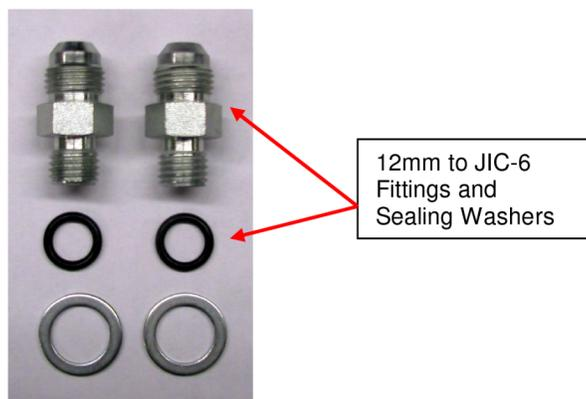

Figure 1 - LB7 Twin CP3 Pump Fittings
1. Please make sure all pump fittings are packaged together in the LB7 Twin CP3 “No-Pump” Kit. These fittings are shown in **Figure 1**.